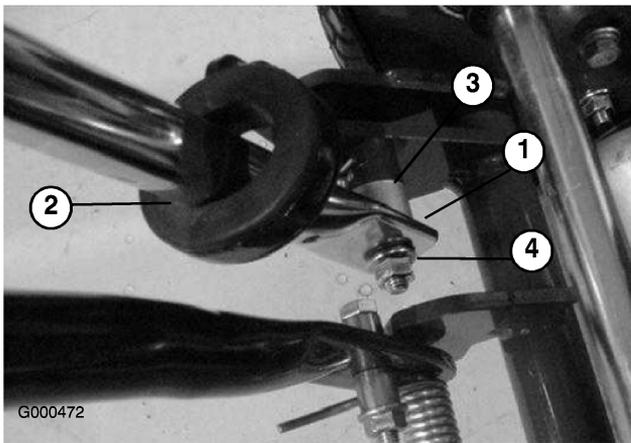

Figure 5
2. Insert the handle ends through the slots in the handle support arms (Figure 5).
- Squeeze the handle ends inward and install them on the step of the pivot pin (Figure 5).
- Secure the handle to the capscrew and pivot pin with the flange lock nut (Figure 5).